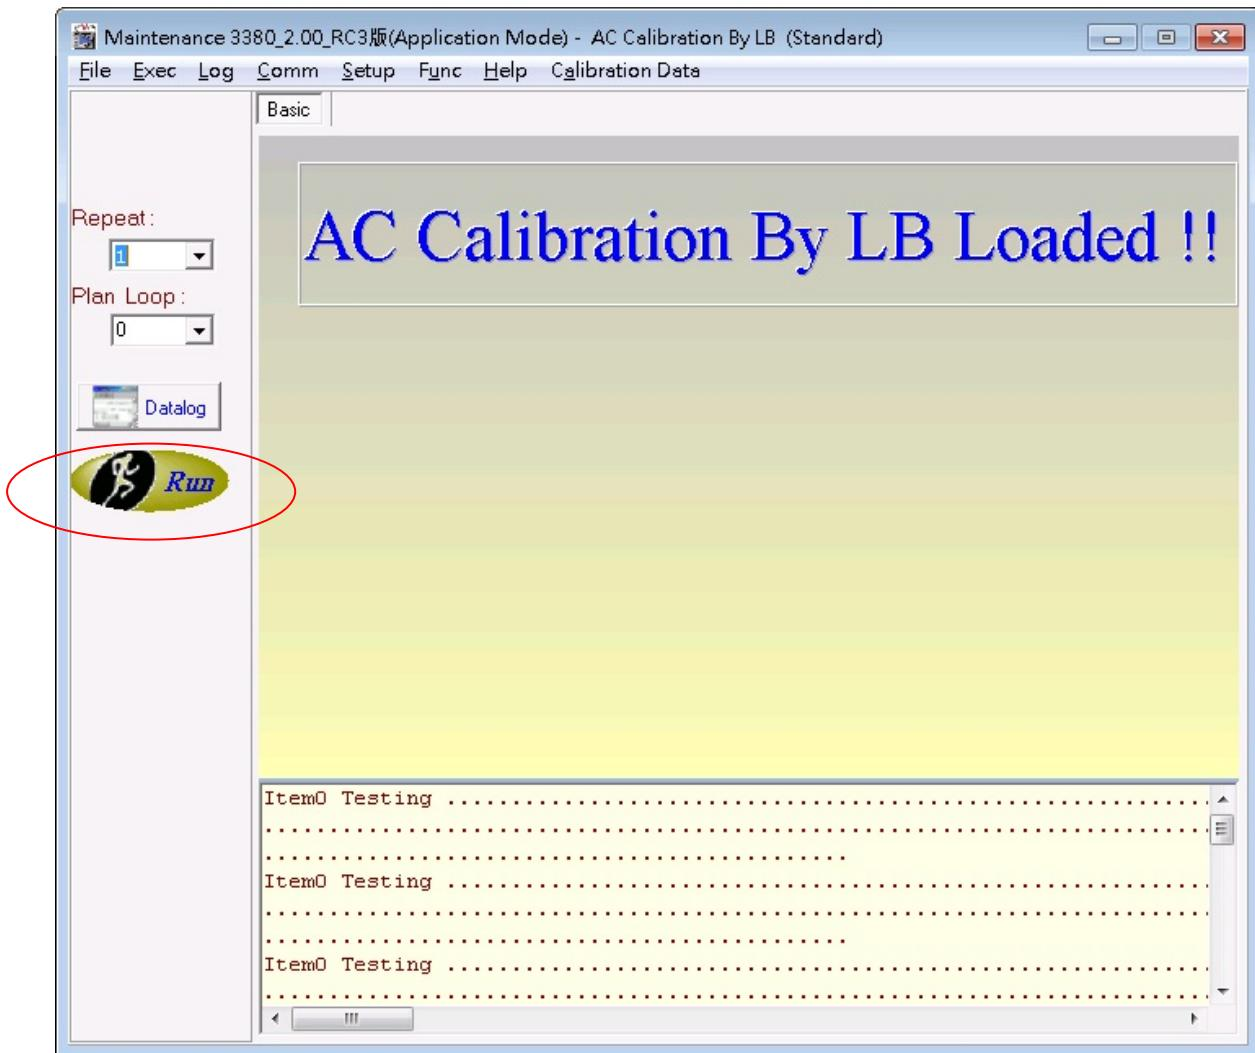

Figure 3-39
3. Click RUN" in CRAFT software window as *Figure 3-39* shown.